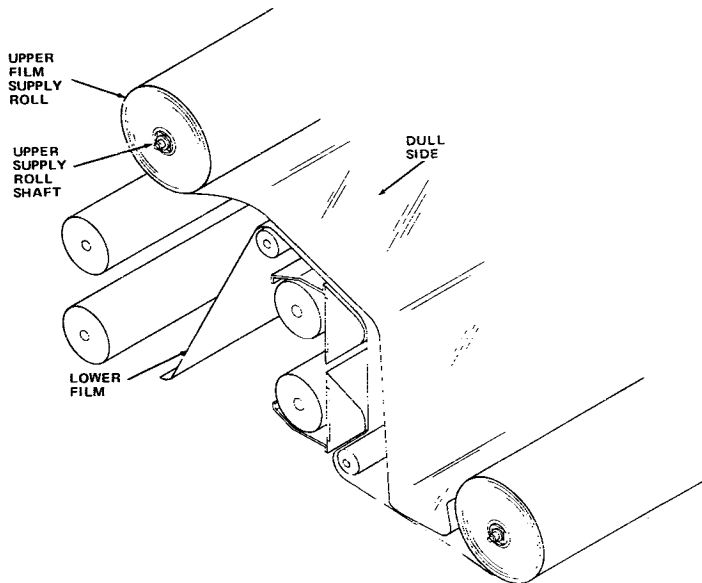

Figure 4.0.4 Initial Threading of Upper Film Supply
10. Turn the upper film supply roll to unreel about 18 inches of film. Drape the free end of the film over the previously placed lower film as shown in figure 4.0.4. Upper film should lie exactly on top of the lower film.